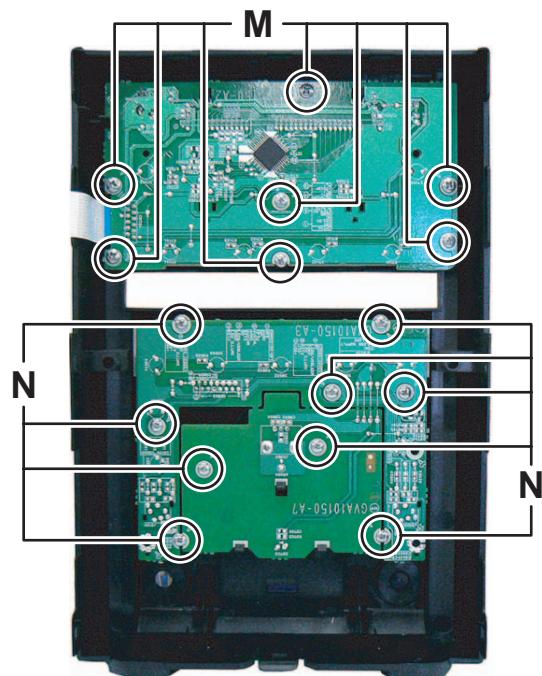

Fig.18
3.1.11 Removing the FL board (See Fig.18)
(1) Remove the seven screws **M** attaching the FL board.
3.1.12 Removing the Volume board (See Fig.18)